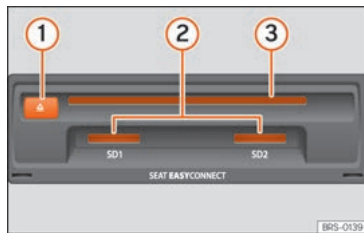

Fig. 224 Slots for data storage devices in the glove compartment.
» **Fig. 224** ③ to the point where it is drawn in automatically.
Insert the compatible memory card, bevelled edge first and with the label face up (contacts face down), into slot » **Fig. 224** ② or » **Fig. 199** ⑨, until properly inserted.